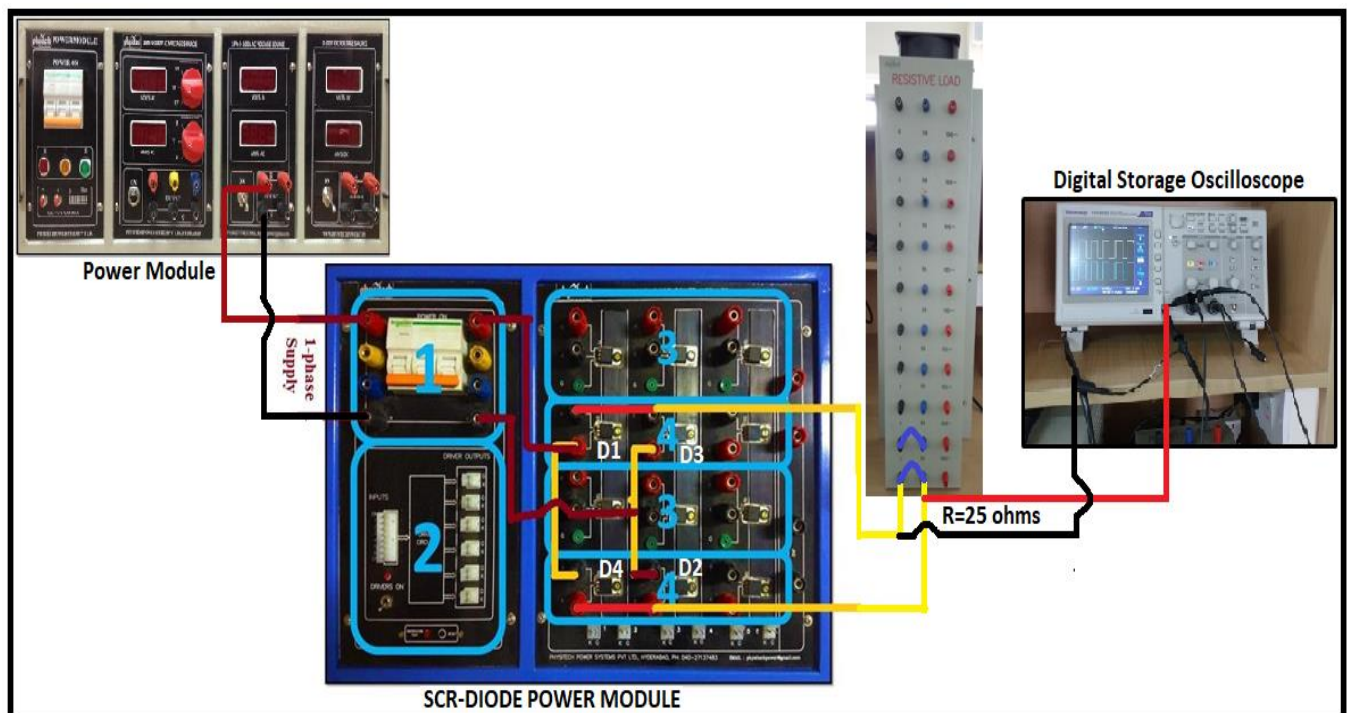

Fig. 3 Hardware implementation of 1-phase diode bridge rectifier with R Load
- Connect the circuit as shown in Fig. 3 ($R=25\text{ohms}$)